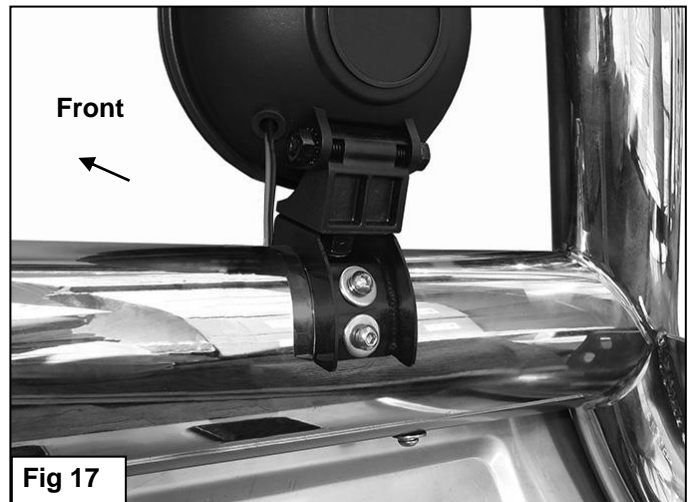

Fig 17
- a) Select (1) Light Mount, **(Figure 16)**. Use the hardware included with the light to attach the light to the top of the Light Mount. If light has a separate tilt feature, fully tighten base mounting hardware, **(See example Figure 17)**. If light adjusts with the base mounting hardware, skip to **Step 10b**.
- b) Remove the rubber plug on the top of the crossbar. Bolt the light and Light Mount to the back of the Bull Bar with the included (4) 6mm x 20mm Button Head Bolts, (4) 6mm Lock Washers and (4) 6mm Flat Washers, **(Figure 17)**. **NOTE:** If light adjusts with the base mounting hardware, hand-tighten the light hardware; do not fully tighten hardware at this time. You may have to install, adjust, remove light with Bracket and readjust a few times to get the light properly adjusted.